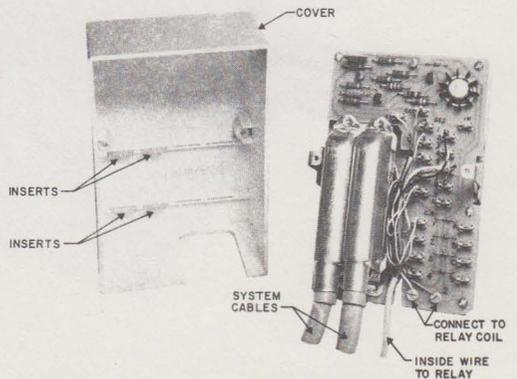

FIGURE 4. 25 A APPARATUS UNIT
- (1) Remove the cover and mount the base pan assembly (Figures 4 and 5) at the desired location (use appropriate fastener per BSP 080-720-105).
- (2) Mount the KS-16626 L12 relay set per BSP 463-120-100 or the KS-16301 L17 relay per BSP 463-110-100.
- (3) For connections, see paragraph 4.02.
- (4) Insert system cable or cables (Figure 4).
- (5) Position inserts (Figure 4) inside cover to hold cables securely when cover is replaced.
- (6) Replace cover.